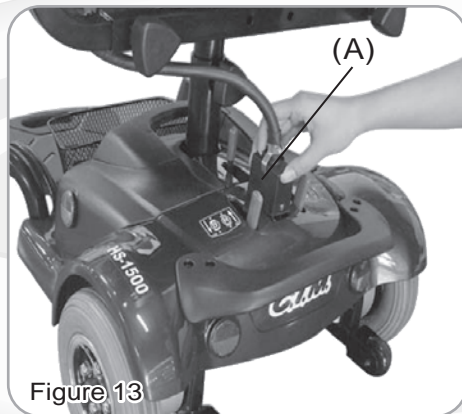

Figure 13
Remove the Basket by turning and removing the center Rivet (D). (See Fig. 13)